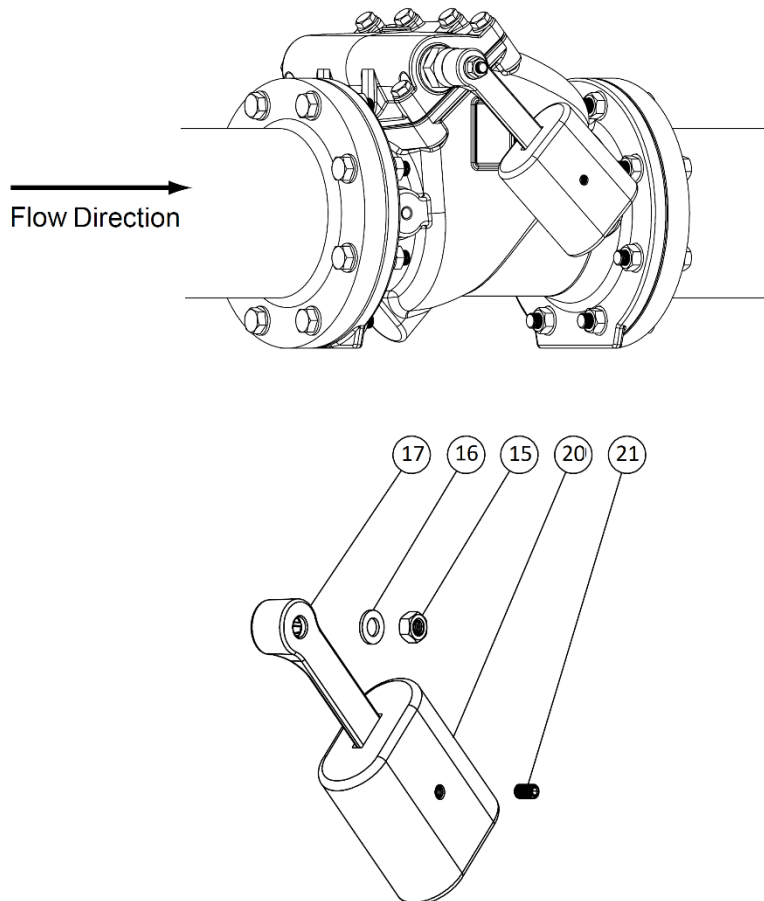

Fig. 8, Weight Components
Slide the lever (17) onto the shaft (9) and position as shown in figure 8.